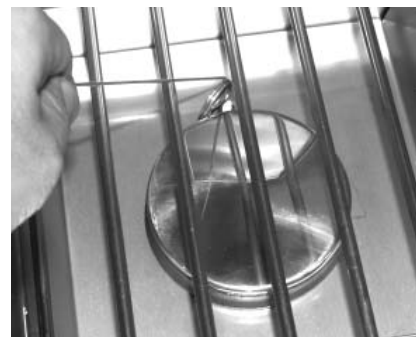

Fig. 21-2 Manual lighting
**CAUTION:** Always wait five (5) minutes for gas to clear after any unsuccessful lighting attempt.
2. Insert either a burning long-barrel butane lighter, a burning long-stem match, or a burning match held by a wire extension holder through the cooking grid opening to the burner (Fig. 21-2). Hold the flame against the edge of the burner.
4. If the burner does not light within five (5) seconds of turning the control knob, **immediately depress the knob and turn the valve to OFF**. **WAIT FIVE (5) MINUTES** before repeating steps 2 through 4 of the MANUAL LIGHTING instructions.